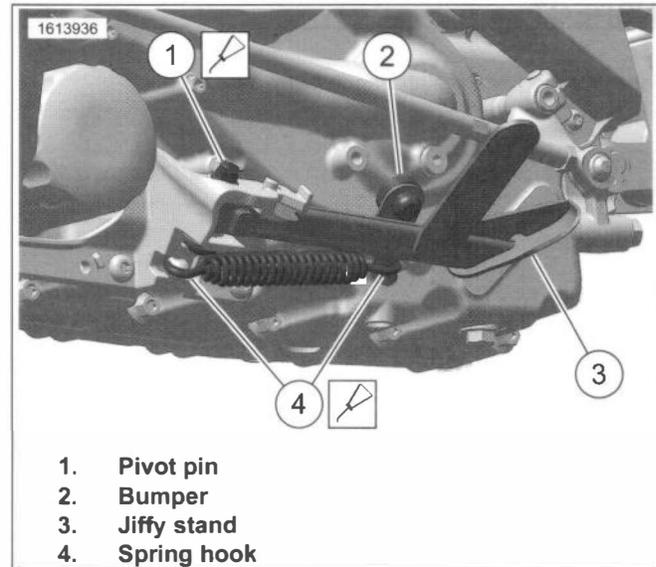

Figure 2-23. Jiffy Stand Lubrication Points
1. See Figure 2-23. Verify that jiffy stand (3) swings freely to fully extended and retracted positions.
3. Inspect bumper (2) for looseness. Replace as necessary.
4. Lubricate pivot pin (1) and spring hooks (4).